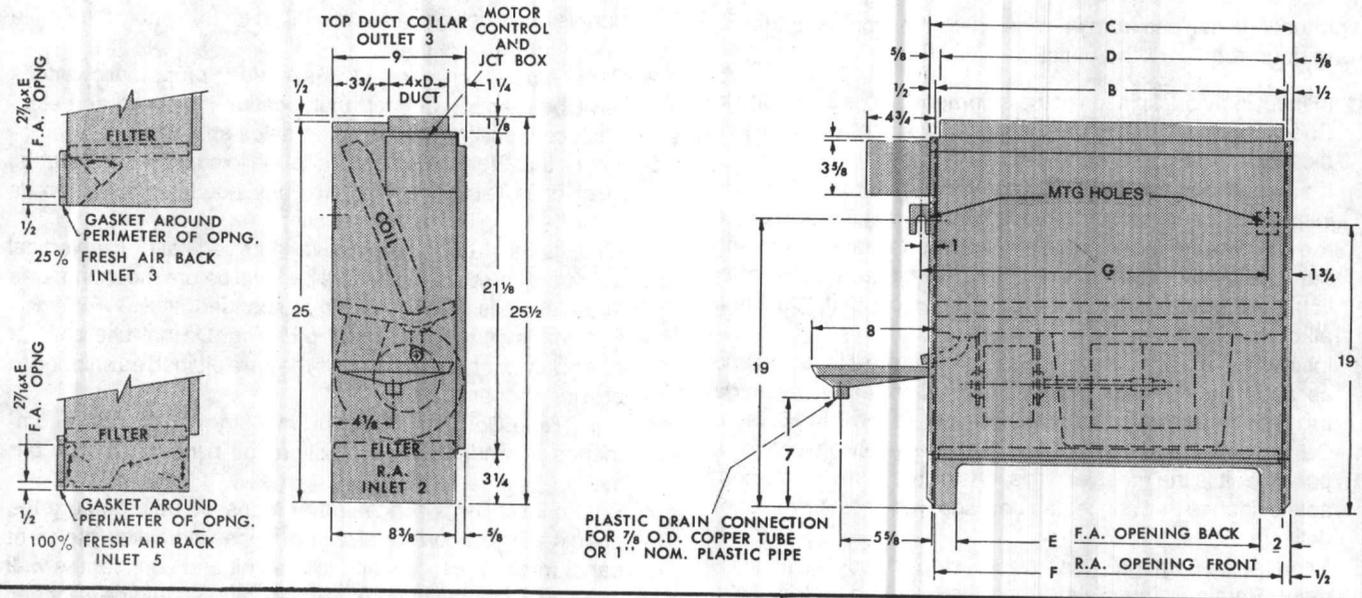

FIGURE 2 - Unit Dimensions for Model A (Vertical Concealed) Units, 02 to 06 Sizes
1. Allow adequate space for the unit and free air or service clearances. See Figures 2 through 14 for unit dimensions. For specific unit dimensions, refer to the sales submittals. For servicing and routine maintenance, leave the area clear around the front panels, end panels and toe space in accordance with local or national electric codes. Provide removable panels in the ceiling for horizontal units. See Table 2 for grille minimum free air areas.